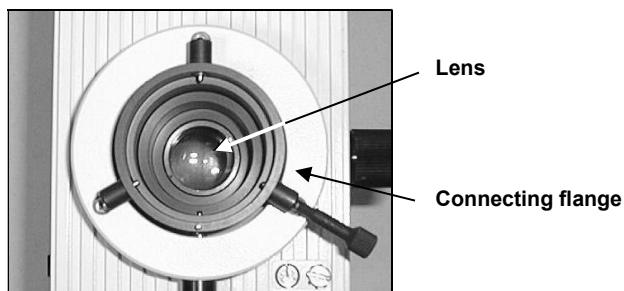

Fig. 15: Centering the lens.
- Center the lens exactly to the center of the light exit aperture (Fig. 15).